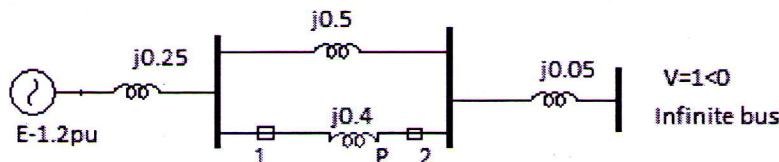

Fig.2
- 16 a) Write all methods to improve steady state stability limit of power system. (4)
- b) A three phase fault is applied at the point P as shown in Fig.2. Find the critical clearing angle for clearing the fault with simultaneous opening of the breakers 1 and 2. The reactance values of various components are indicated in the diagram. The generator is delivering 1.0 p.u. power at the instant preceding the fault. (10)